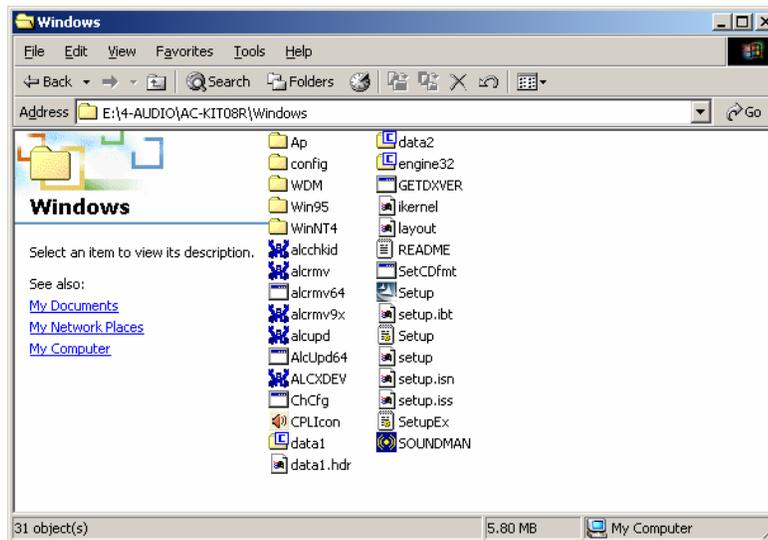

Figure 6-22: CD 4-AUDIO\AC-KIT08R\Windows Folder
Step 2: From the main driver menu, navigate to **X:\4-AUDIO\AC-KIT08R\Windows** (or other appropriate OS). **X:** represents the system CD drive. A new window appears showing the folder contents (**Figure 6-22**).